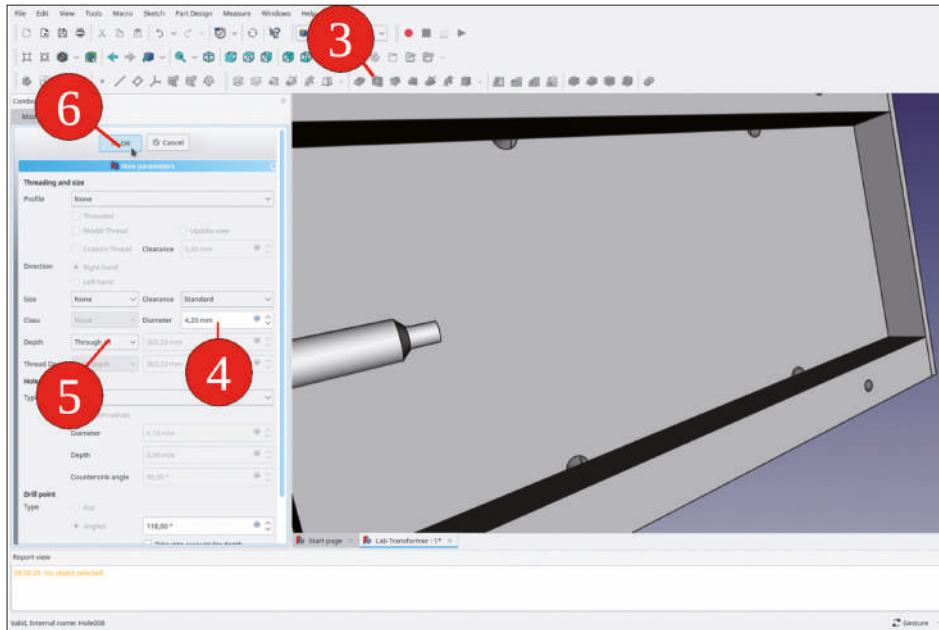

Figure 9-95
11. With the new SubShapeBinder marked in the tree view, click the 'Hole' tool button. In the task window, set the diameter to 4.2 mm and select 'Through all' as the depth. Temporarily show the 'Chassis Sheet' body again, to check the results of the 'Hole' command (Figure 9-95). Close the task window with the 'OK' button.